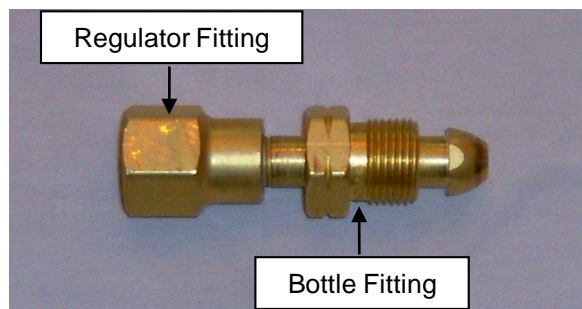

Figure 1
Important Note: Compressed Air Cylinders are supplied with a Female left-hand thread Bottle fitting (CGA-590). Pressure Regulator BEREG02 supplied in the Blowing Head Equipment Kit have a Male right-hand thread Nut (CGA-580). A CGA-590 Industrial Air Cylinder-to-CGA-580 Nitrogen Regulator Cylinder Adapter is therefore required to connect the Pressure Regulators to the Bottle fitting. One (1) Cylinder Adapter is required for each Pressure Regulator used. **See Fig. 1.**